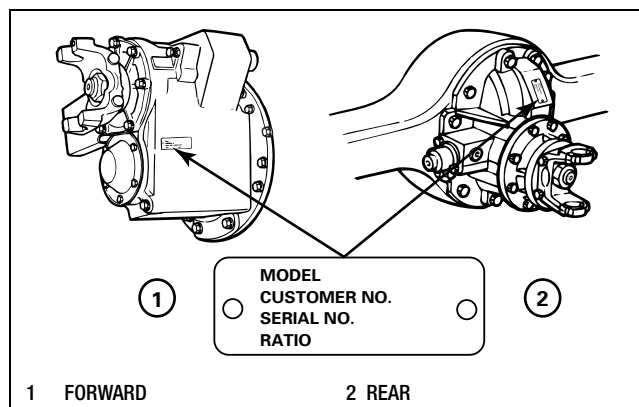

Figure 4.15
1. Locate the identification tags riveted to the forward and rear axle differential carriers. Figure 4.15.